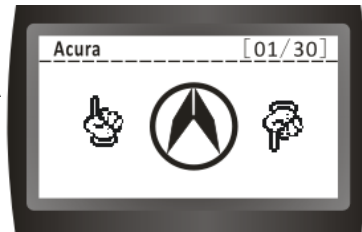

Figure 17
4. After a few seconds, it will switch to: (Figure 17)